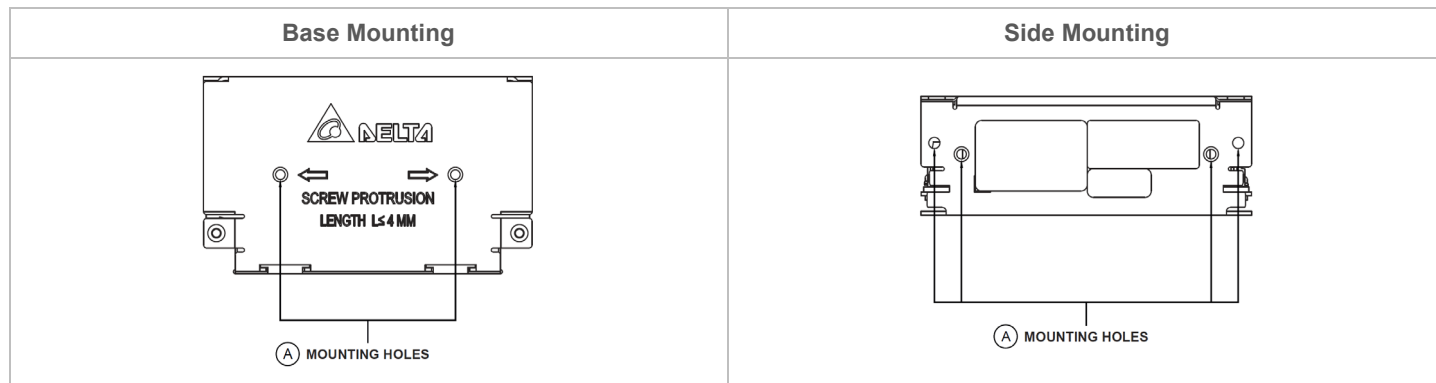

Fig. 5.1 Mounting Hole Locations
- The power supply shall be mounted on a sturdy heat conducting surface with minimum of 2 mounting holes (Fig. 5.1, (A)) for base mounting or side mounting. Use M3 screws only. The screw penetration into the chassis must be 3.5-4 mm. For the other mounting holes without screw threads, please use suitable screw and nut.